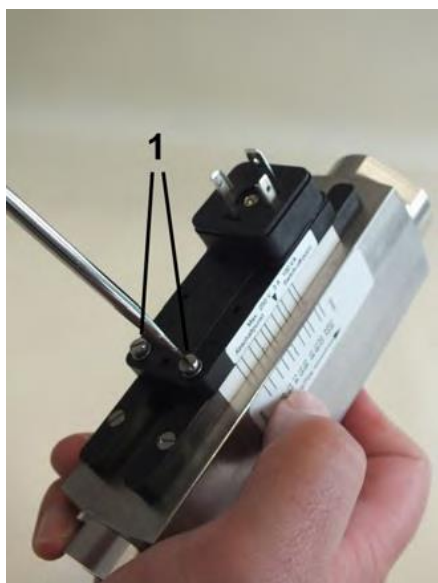

Fig. 73: Loosen set screws
- 3.** ► Using a flat-bladed screwdriver (Fig. 73/1) loosen the set screws of the switch contact until it can move freely.
11. ► Retighten the set screws (Fig. 73/1) observing the proper tightening torque of the screws (↗ Chapter 11.1 "Tightening torque of screws")